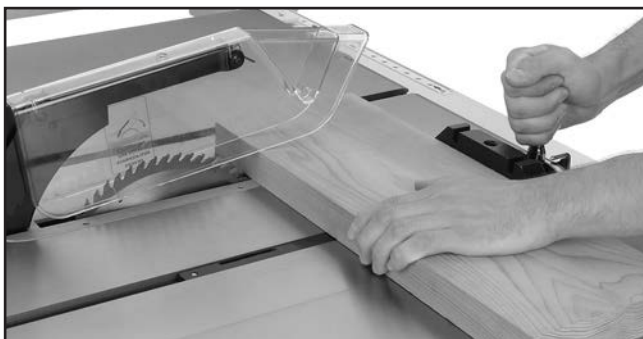

Figure 57. Typical crosscutting operation.
7. Hold workpiece firmly against face of miter gauge (as shown in **Figure 57**), and ease it through blade until workpiece is completely past saw blade.